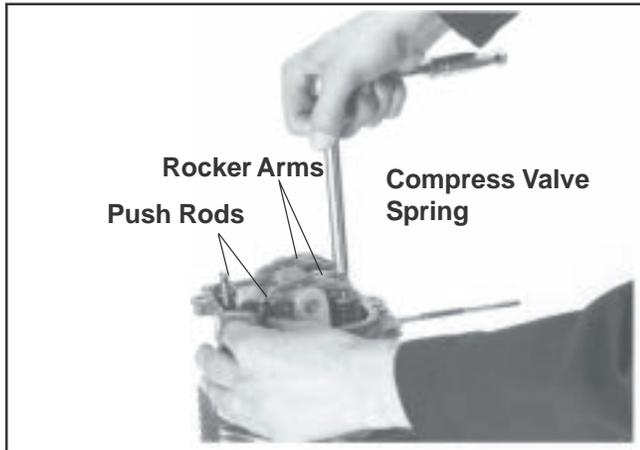

Figure 11-36. Installing Push Rods Under Rocker Arms (Rocker Bridge Style Heads).
4. **Rocker Bridge Heads - Figure 11-36**